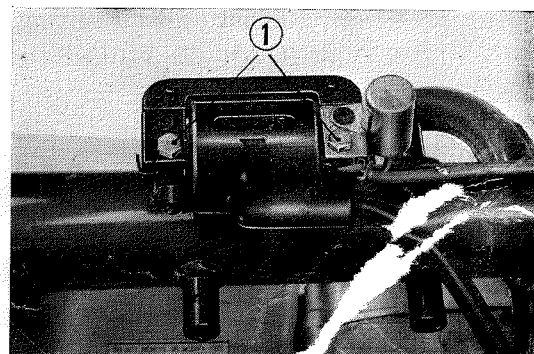

Fig. 75 ① Ignition coil setting bolt
① Rear fender ② Fender mounting screw
8. Disassemble the electrical system. (Fig. 75)